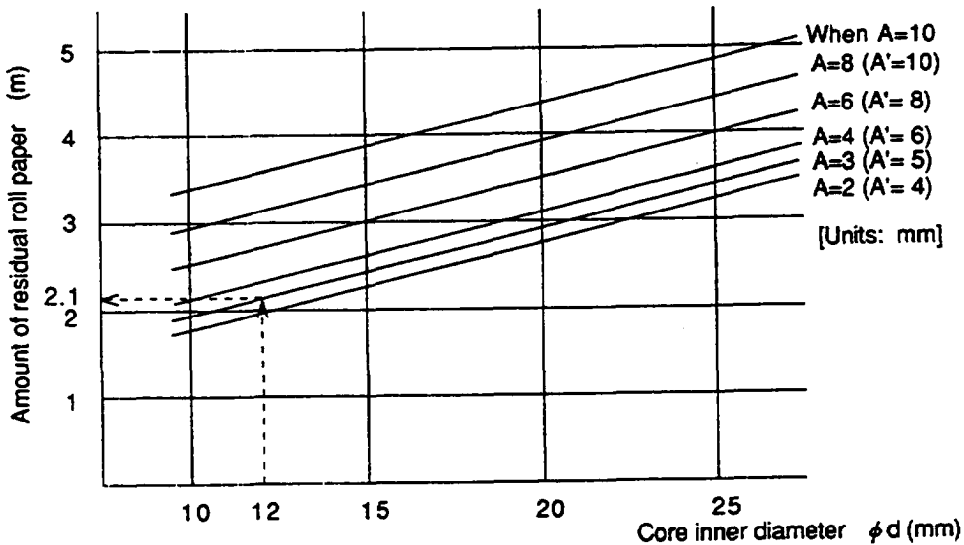

Figure D-3. Relationship between the Roll Paper Core Inside Diameter and the Roll Paper Remaining Amount
- 2) The remaining paper length at this time can be obtained from Figure D-3. (indicated by - - - mark). The remaining paper length corresponding to the paper roll ($\phi d = 12$ mm, $A = 3$ mm ($A' = 5$ mm)) is approx. 2.1 m.